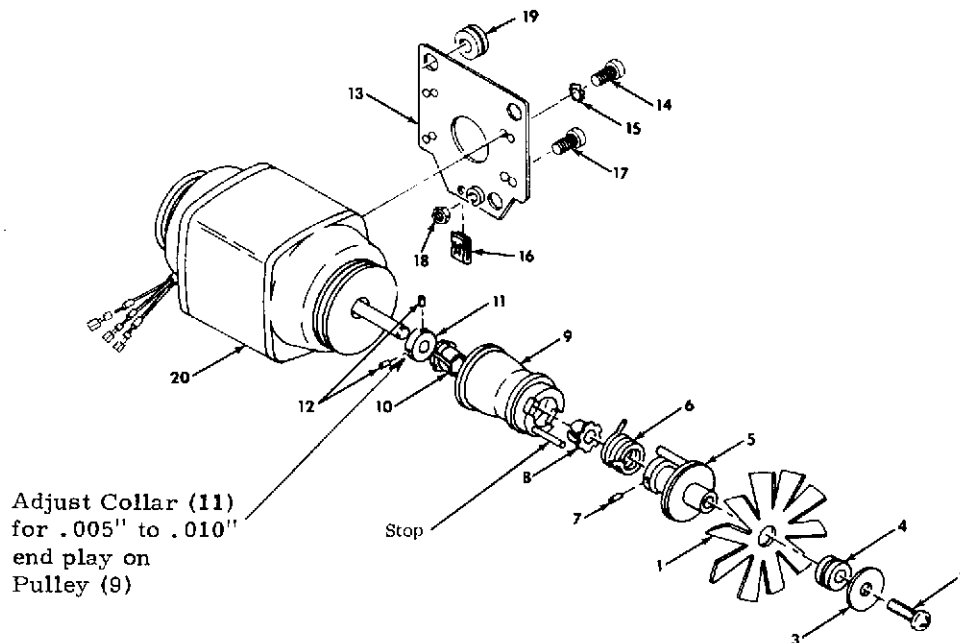

Figure 3-8. DISASSEMBLY AND REASSEMBLY OF DRIVE UNIT ASSEMBLY.
**Disassembly of Motor Drive Unit Components (Figure 3-8)**
2. Remove Fan and Hub Assembly (1) through (6) by supporting Motor shaft and gently tapping out Spirol Pin (7).
3. Remove Pulley (9) and Bearings (8) and (10).
4. Clean Pulley (9) with Chlorothene. Wipe Motor shaft and Bearings (8) and (10) with clean, dry cloth.
5. Assemble Bearings (8) and (10) to Pulley (9) and install (Pulley (9) on Motor Shaft.
6. Apply Vischem 352 lubricant to inside diameter of Spring (6) (Between Spring (6) and Hub (5) ) and install Hub Assembly (1) through (6), lining up hole in Hub Assembly with hole in Motor Shaft.
7. Support Motor shaft and gently tap NEW Spirol Pin (7) into hole.
9. Make sure no lubricants are on Drive Belt or driving surfaces of Pulley (9).
10. Adjust Collar (11) for .005" to .010" end play of Pulley (9).
**Reassembly of Motor Drive Unit Components (Figure 3-8)**
1. Apply FS-1290 to Motor Shaft, inside diameters and outside faces of Bearings (8) and (10), and inside diameter of Pulley (9).